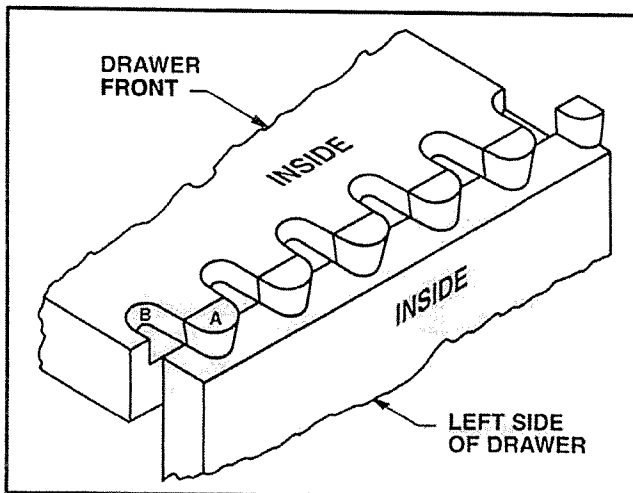

Fig. 14
4. Next, examine the drawer pieces to make sure they have been cleanly routed. See Fig. 14.
5. Remove drawer pieces and fit together, matching dovetail (A) with slot (B), Fig. 14.